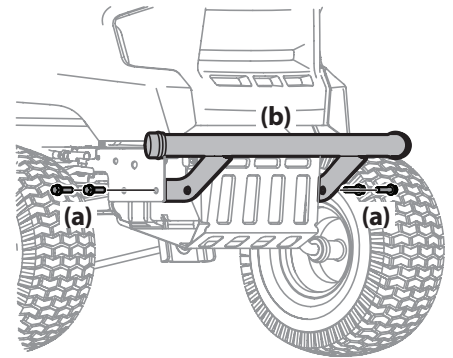

Figure 10
- Remove the four hex screws (a) from the bumper (b). See Figure 10.
- Position the bumper brackets to the **inside** of the tractor's frame and secure it in place with the four hex screws (a). Torque to 332-405 in-lbs (37.5-45.75 N-m). See Figure 10.